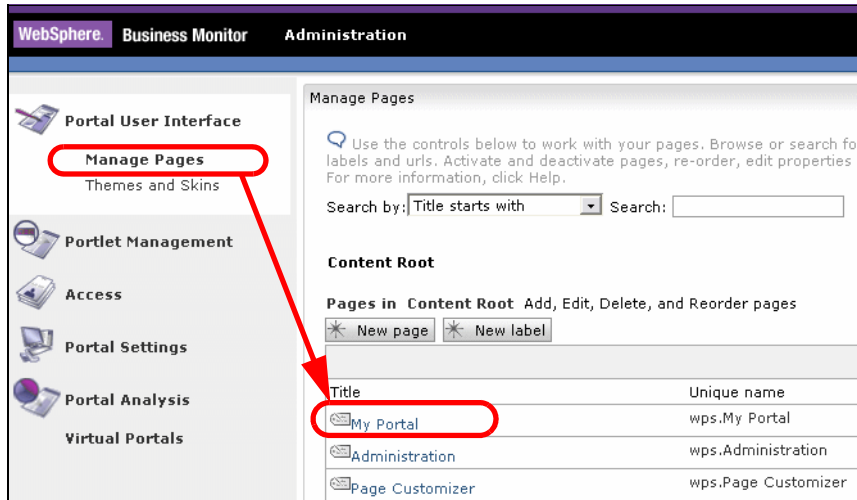

Figure 14-62 Accessing My Portal
- ▶ Select *Portal User Interface* → *Manage Pages* → *My Portal* (Figure 14-62).